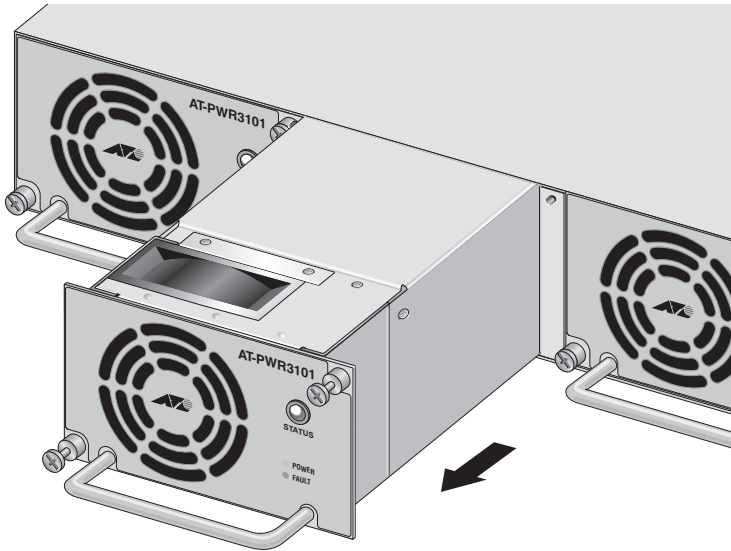

Figure 24. Removing an AT-PWR3101 Module
- Using the handle on the faceplate of the AT-PWR3101 module, pull the module from the system (see Figure 24).